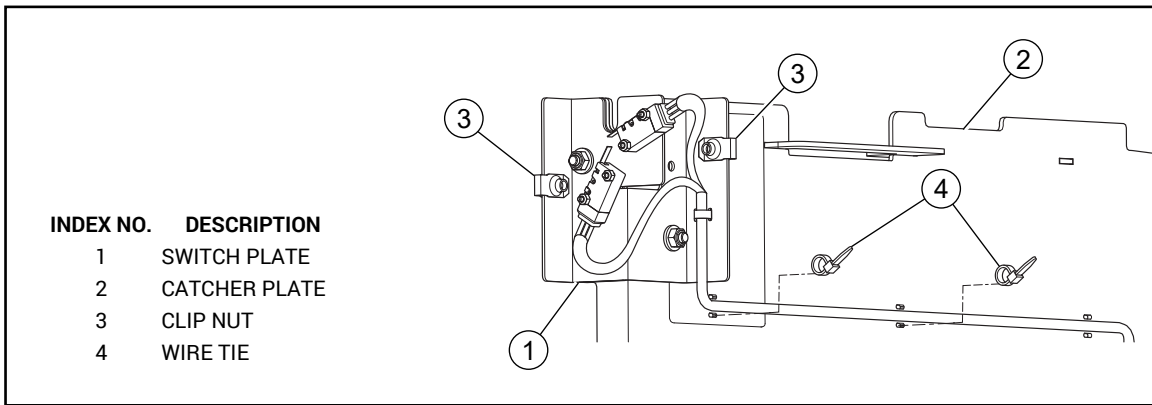

FIG. 5
5. Attach the switch wire harness to the backside of the catcher plate with the wire ties in the first two places as shown. Do not install the rear wire tie at this time. Fig. 5